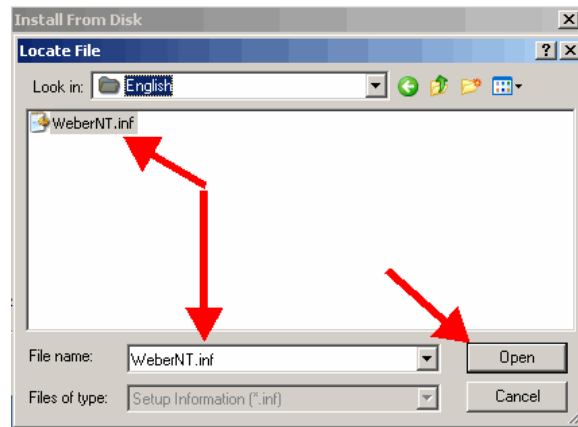

Figure 17
21. Double-click on WeberNT.inf. (Figure 17)